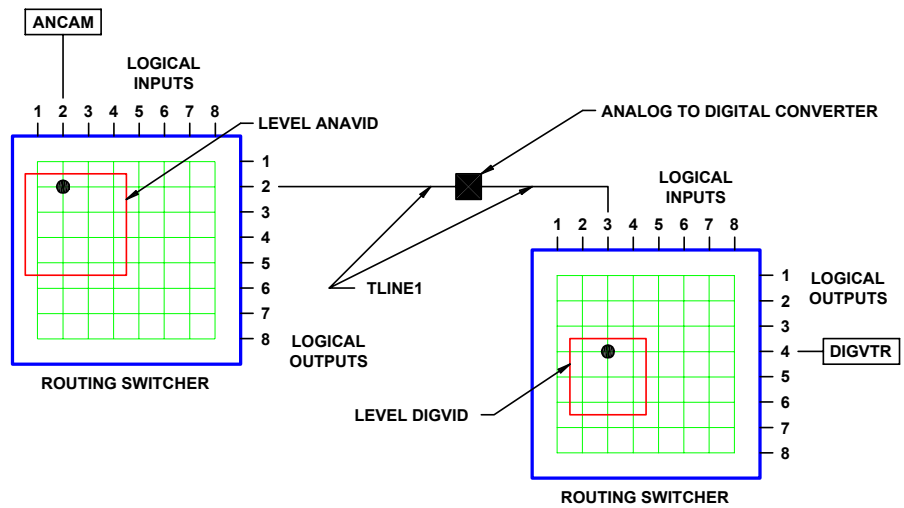

Figure 27 Configuring a Source to use a Tieline
- a) Select the **Source Level**. For the example shown in Figure 27, “DIGVID” would be used.
- b) Select the **Tieline Level**. For the example shown in Figure 27, “ANAVID” would be used.
- c) Enter the **Tieline Level Input**. For the example shown in Figure 27, “2” would be used.